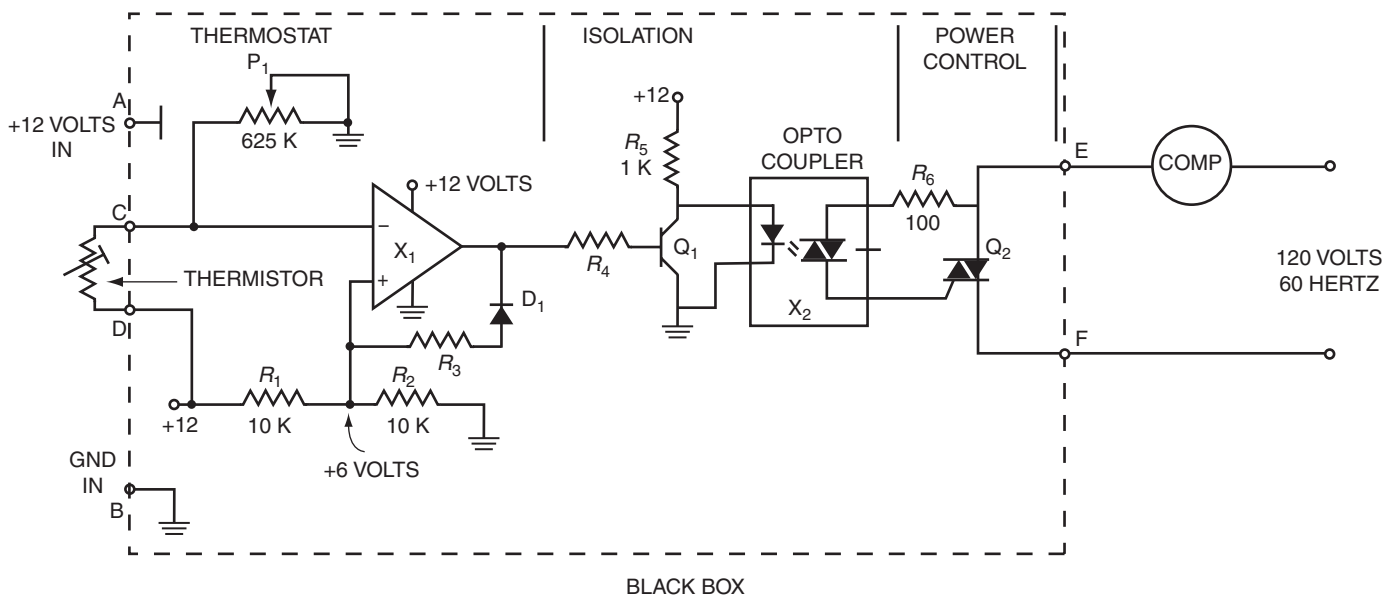

FIGURE 17–35 Compressor control system.
The pot in Figure 17–34 is set for 355 K, which is the resistance of the thermistor at 0°C (Table 17–1). Also note that thermistor has a negative temperature coefficient (i.e., as temperature decreases, resistance increases).
Using the thermistor, opto isolator, comparator, and a triac, a system as shown in Figure 17–35 can be put together controlling a compressor motor.
In the compressor control system, Figure 17–35, the temperature selector P_1 is adjusted to 625 K ohms or -10°C (14°F) or icebox temperature. Assume the temperature in the box is above -10°C . The compressor is running. The box is cooling down. The thermistor’s resistance is less than 625 K ohms, so the voltage at the amplifier inverting input is greater than +6 volts. The amplifier output is zero (0) volts. With 0 volts at its base, Q_1 is turned off. The LED of X_2 is turned on since there is a path for current from ground to the diode and R_5 to +12 volts.